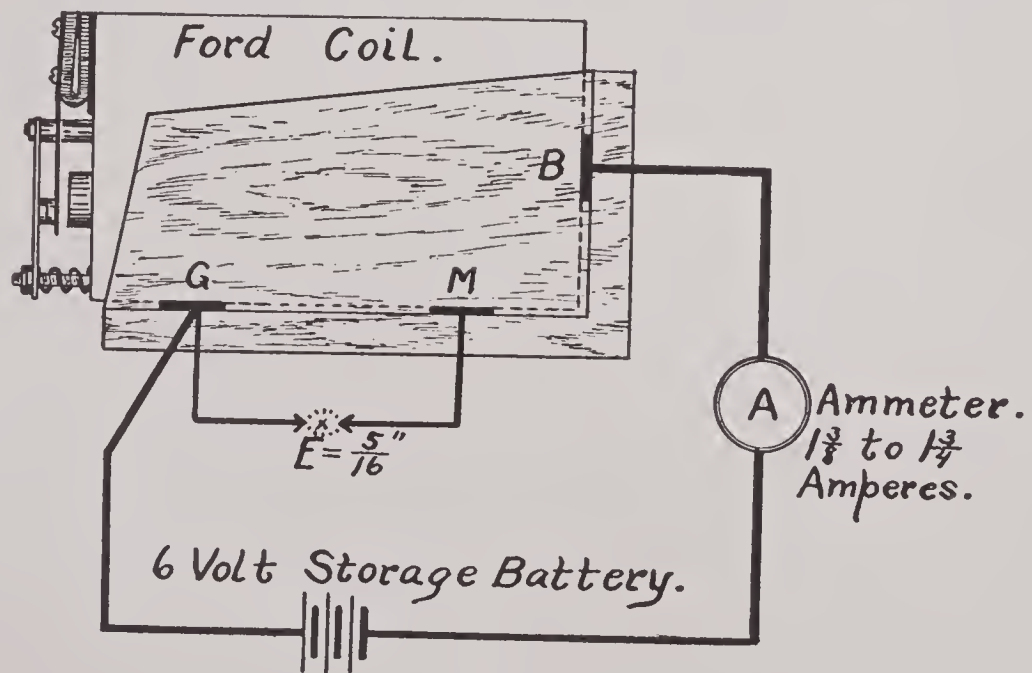

FIG. 273
Fig. 273 shows a test arrangement for testing a Ford coil to determine if the vibrator spring has the proper tension. If the coil draws more than  $1\frac{1}{2}$  amperes the tension of spring is too strong. The tension of spring can be relieved by turning back on small screw (P) so as to slightly separate the ends of the horseshoe shaped support for the vibrator spring. If the coil draws less than  $1\frac{1}{2}$  amperes the spring is too weak. Adjustment can be made by turning down on the small screw permitting the ends of the horseshoe shaped support to spring to-